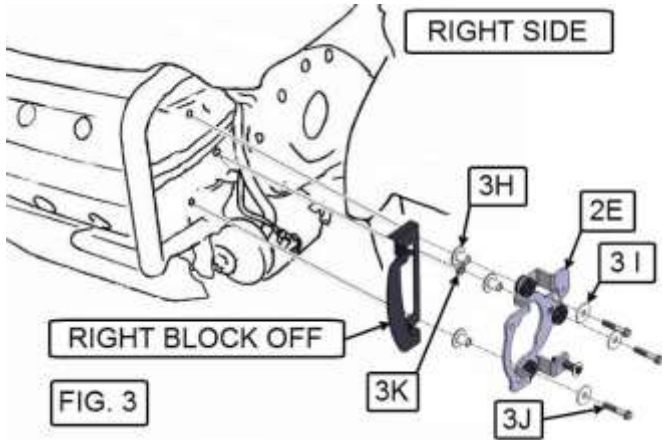
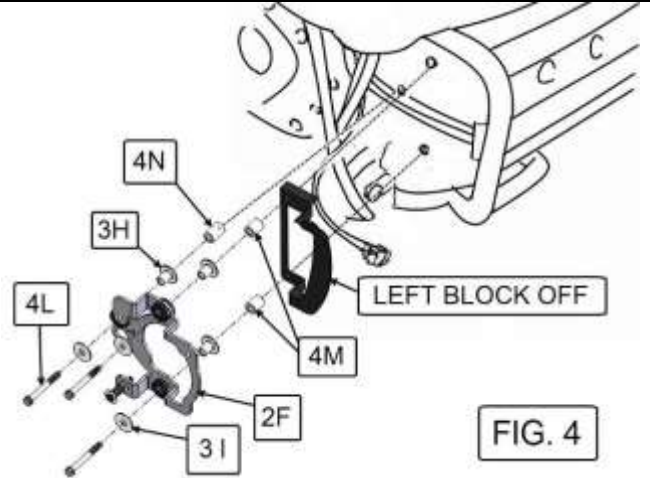

FIG. 3
FIG. 4
5. USING AN 8MM WRENCH REMOVE THE RIGHT AND LEFT BLOCK OFFS THAT ARE SHOWN IN FIG. 3 AND FIG. 4. THE BOLTS WILL NOT BE REUSED.
6. TAKE THE RIGHT LIGHT MOUNT (2E) AND PUSH THREE SILVER FLANGE COLLARS (3H) INTO THE BACK OF THE LARGE RUBBER GROMMETS (2G) AS SHOWN IN FIG. 3.
7. USING THE M6 X 32MM LONG HEX HEAD SCREWS (3J), M6 FLAT WASHERS (3I), AND 6MM X 4MM LONG SPACER (3K) ASSEMBLY THE RIGHT MOUNT TO THE BIKE. SEE FIG. 3. BE SURE TO REINSTALL THE RIGHT BLOCK OFF AS SHOWN.
8. TAKE THE LEFT LIGHT MOUNT (2F) AND PUSH THREE SILVER FLANGE COLLARS (3H) INTO THE BACK OF THE LARGE RUBBER GROMMETS (2G) AS SHOWN IN FIG. 4.
9. USING THE M6 X 50MM LONG HEX HEAD SCREWS (4L), M6 FLAT WASHERS (3I), 6MM X 16MM LONG SPACERS (4M) AND 6MM X 20MM LONG SPACER (4N) ASSEMBLY THE LEFT MOUNT TO THE BIKE. SEE FIG. 4. BE SURE TO REINSTALL THE LEFT BLOCK OFF AS SHOWN.